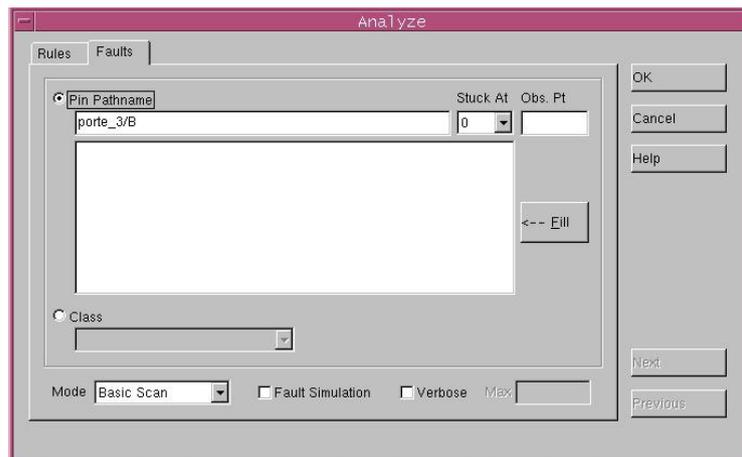
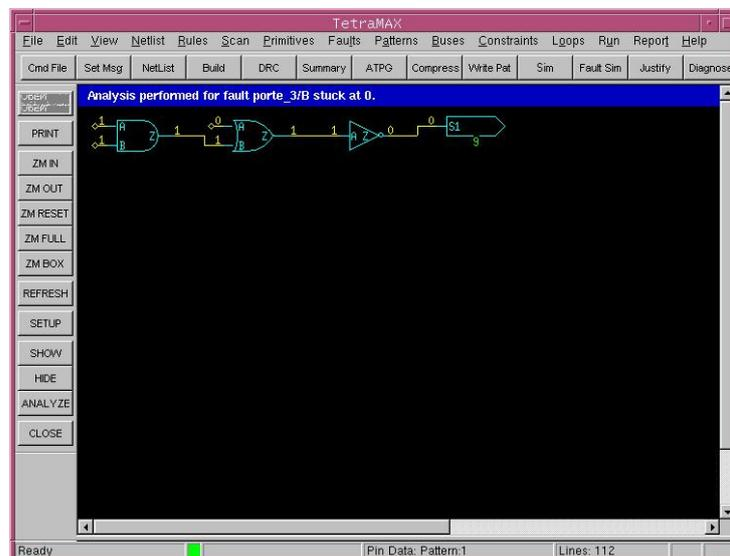

Figure 6: Analyze window
Figure 7: Analyse window
- Fault effect path analysis: In the left menu click on **ANALYSIS**, then on the **Faults** tab the window (see Figure 6) opens. In this example we want to analyze step by step the test of the sticking at 0 of the B input of gate 3 (gate_3/B Stuck at 0). Click on **OK**, you can see on the main window (Figure 7) the path used by the fault effect and the values to be applied to the inputs of the logic gates to propagate this fault effect.